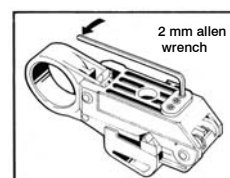

Figure 20
- D.** Adjustment of the adjustment screws. Rotate adjustment screws clockwise until they touch the gauge (Fig. 20). Then open the tool and remove the gauge. Install the cassette, and the tool is now ready for use.